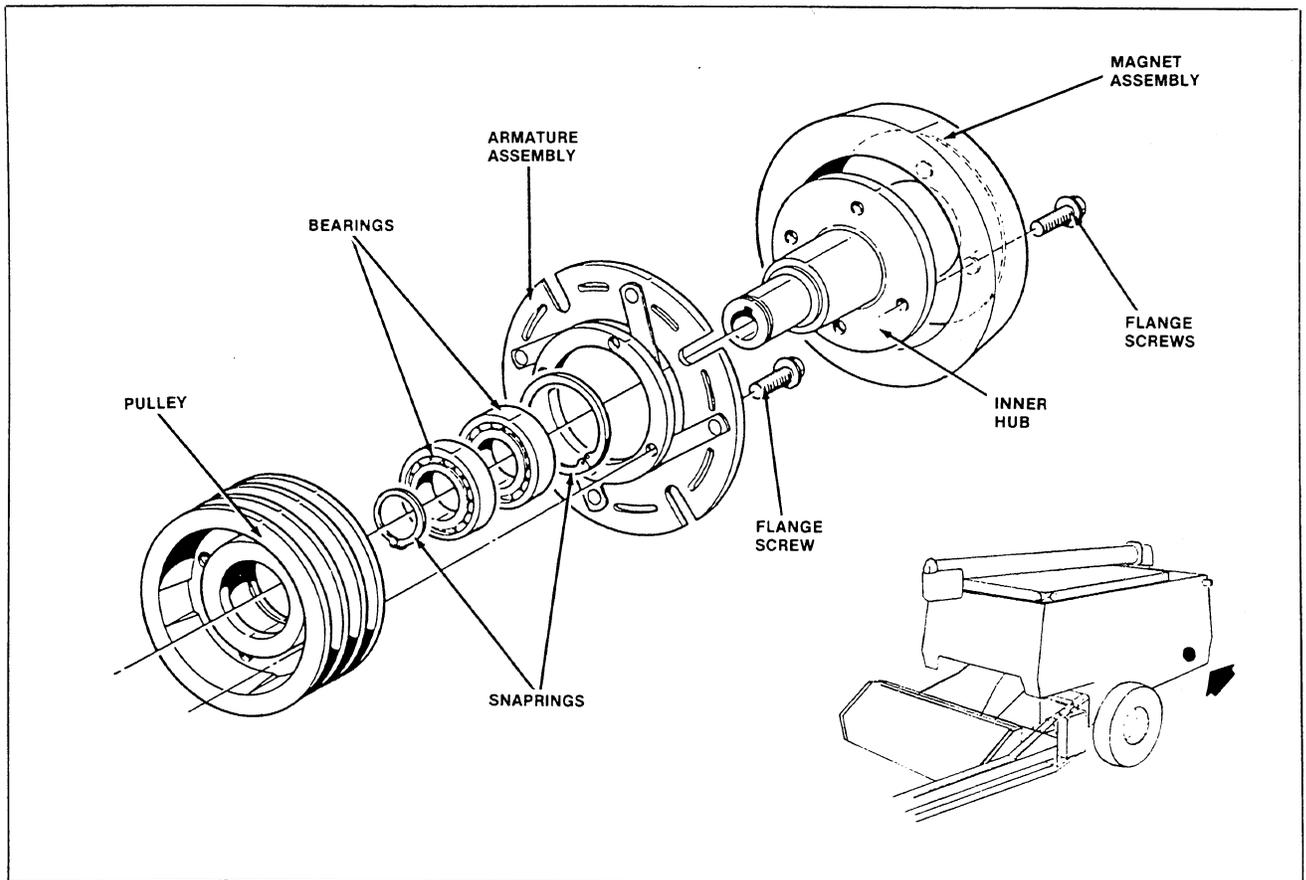

FIGURE 2-5:Unloading Auger Clutch
3. Remove four flange screws securing magnet assembly to clutch (Figure 2-5). Remove magnet assembly.
2. Install bearing to pulley and secure with two snaprings (Figure 2-5).